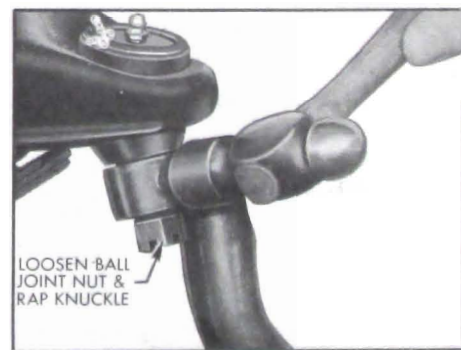

Figure 7-11—Separating Ball Joint from Knuckle
5. Rap steering knuckle sharply in area of ball stud to allow force of chassis spring to disengage tapered stud from knuckle. See Figure 7-11.